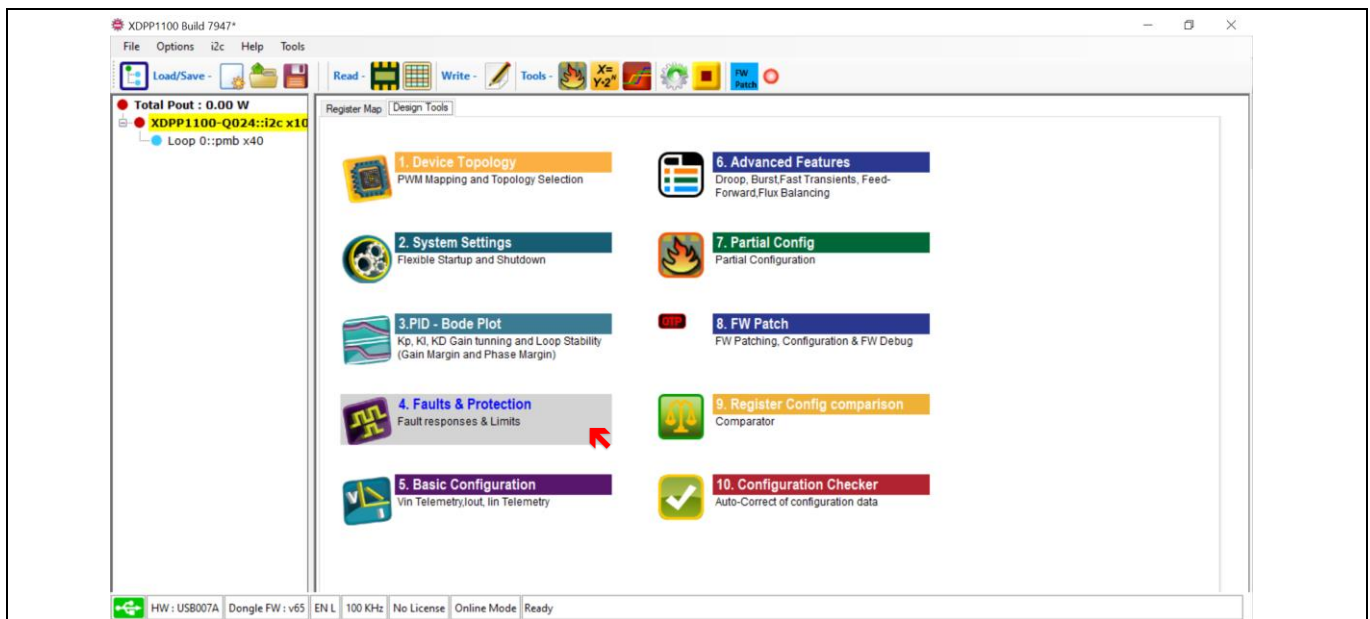

Figure 31 Faults and protection (fault responses and limits)
- Click on **XDPP1100-Q024::i2c x10** (highlighted in yellow in **Figure 31**).